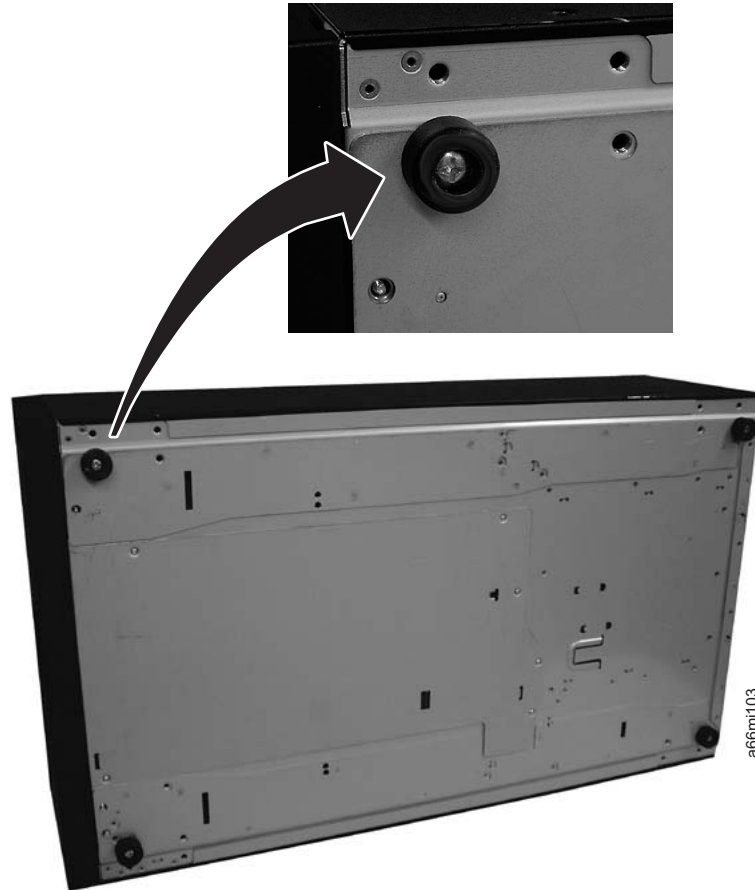

Figure 4-13. Foot pad Locations
2. Using a #2 Phillips screwdriver, install the foot pads on the bottom of the library chassis. See Figure 4-13 for foot pad locations.